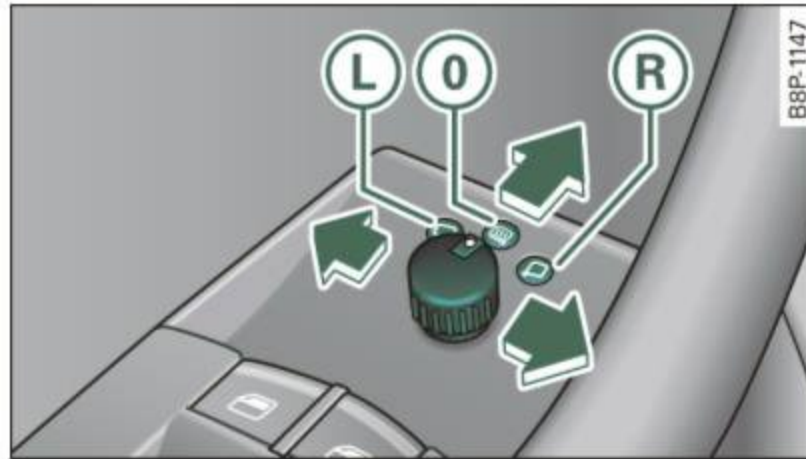

Fig. 61 Forward section of driver's armrest: power mirror controls
- Turn the adjusting knob to ⇒ fig. 61 **L** (driver's side outside mirror) to **R** (front passenger's outside mirror).